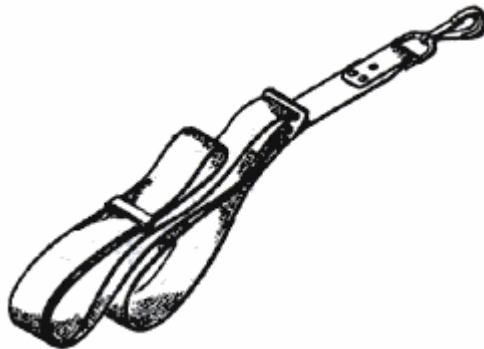

Fig. 5. Sling for carrying small arms.
- sling for carrying small arms (Fig. 5) - 1 pc.;